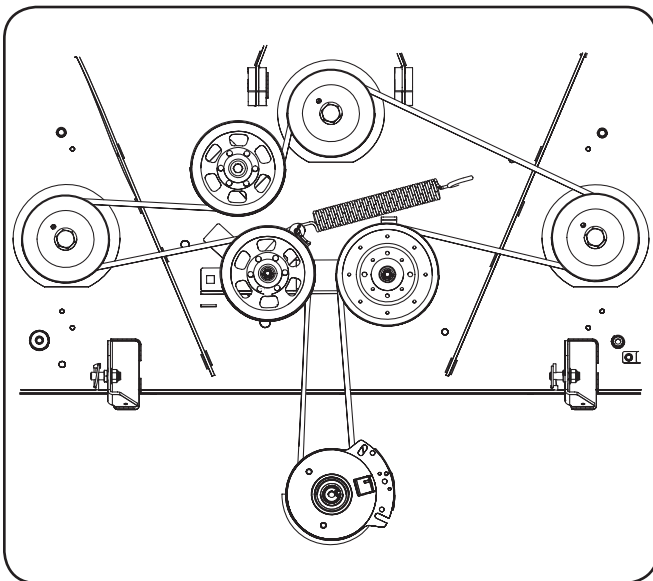

Figure 7-9
- Place the belt around the idler pulleys removed in step 3 with the "V" side facing in. Once in place, reinstall all the hardware and tighten the flange lock nut to secure the assembly. See Figure 7-9.
- Route the belt as shown in Figure 7-9 and then reinstall the deck (refer to Deck Installation on page 30).